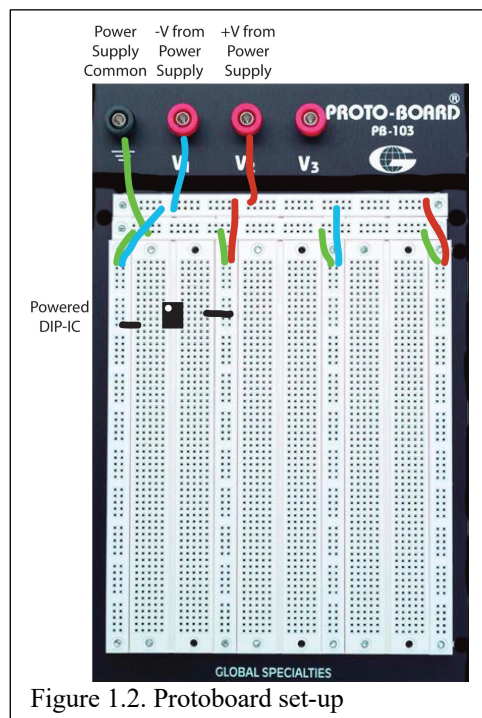

Figure 1.2. Protoboard set-up
**Q12. What are the two different configurations to measure the voltage and current, noting that the set-up in Figure 1.2 is one such way? Briefly (a few sentences) discuss their relative accuracy.**